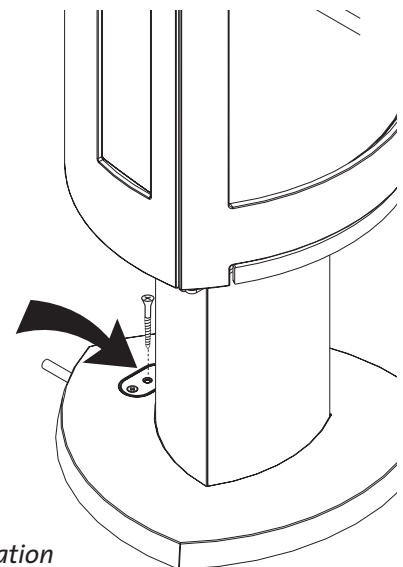

Figure 1.
4. Remove Pallet Screw. See fig. 1.